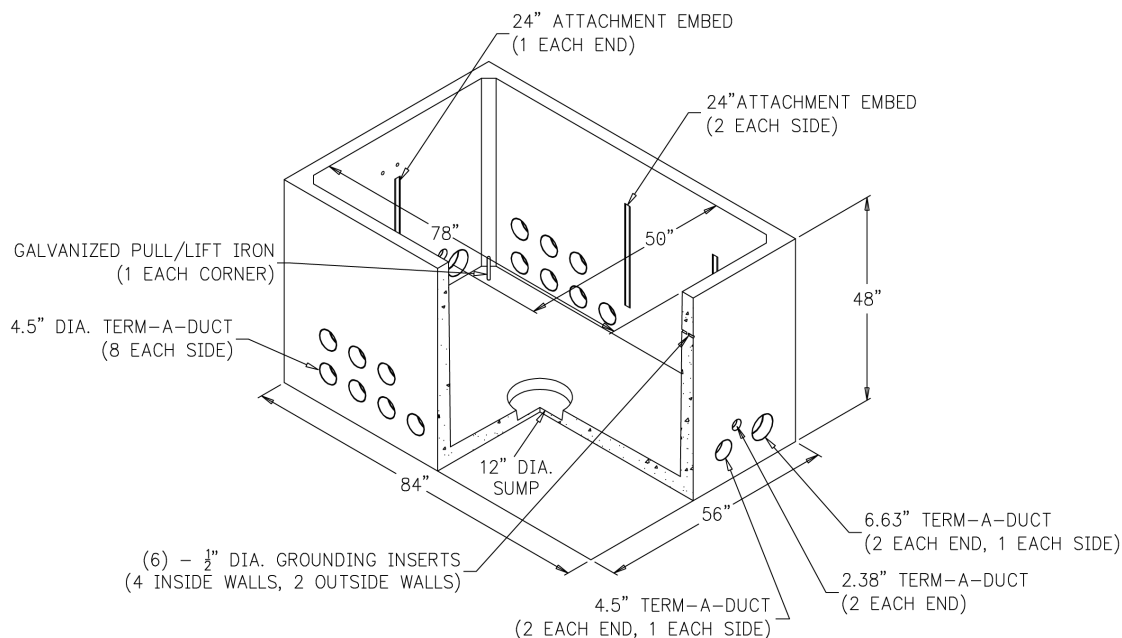
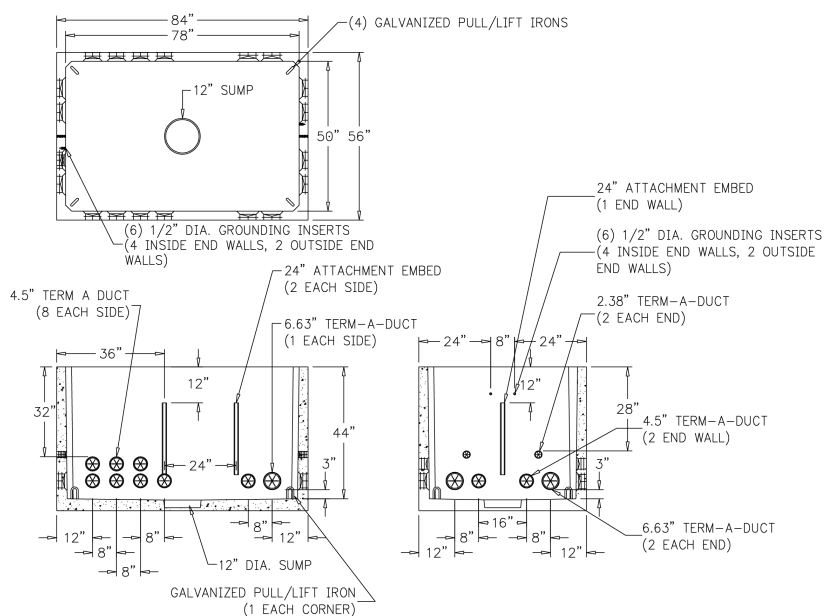

Figure 1 — 5' x 7' (56" x 84") Vault, Cutaway View
Figure 2 — 5' x 7' (56" x 84") Vault Enclosure Layout
3090369, VAULT, METERING, 3-PHASE, 200A (refer to Figures 1, 2, & 3)
Figure 1 and Figure 2 show the assembled 5' x 7' (56" x 84") vault layout with dimensions. Unless otherwise approved by company engineering, all dimensions and placement of hardware shall conform to those shown in Figure 1 and Figure 2. Vault enclosures shall be constructed to ASTM C857 A-16, and to the holding strengths of the pulling eyes or irons.
The padvault shall be constructed with Term-A-Duct or equivalent conduit entrances compatible with PVC, polyethylene (PE), or fiberglass 90 °C-rated electrical-grade conduit. The standard conduit entrance locations are as follows, and are also shown in Figure 2: